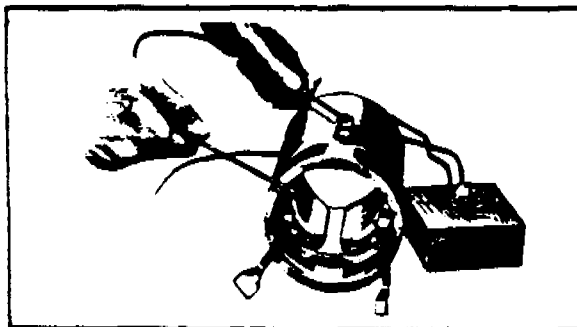

FIGURE 9-29d. TESTING MOTOR FIELDS FOR GROUNDS
a. Check the field coils for grounds (Refer to Figure 9-29d) by placing one test probe on the frame and the other on the starter terminal. Be sure the brushes are not accidentally touching the frame. If the lamp lights, the fields are grounded. Repair or replace.